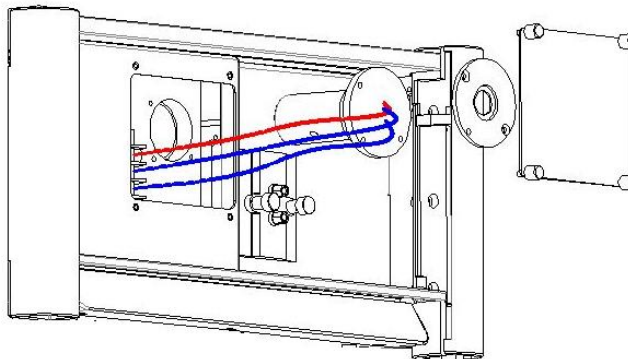

Fig. 5-3 Pull the lamp out
- 3) Unscrew the 3 lamp connecting terminals, as shown in Figure 5-3. Then loosen the 2 deuterium lamp mounting screws, and pull the lamp out of the lamp housing.